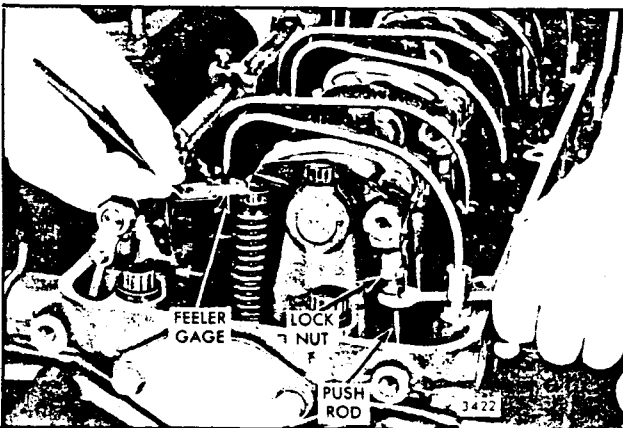

Fig. 1 - Adjusting Valve Clearance (Two-Valve Cylinder Head)
5. Place a .011" feeler gage (J 9708-01) between the exhaust valve stem and the rocker arm (Fig. 1). Adjust the push rod to obtain a smooth "pull" on the feeler gage.